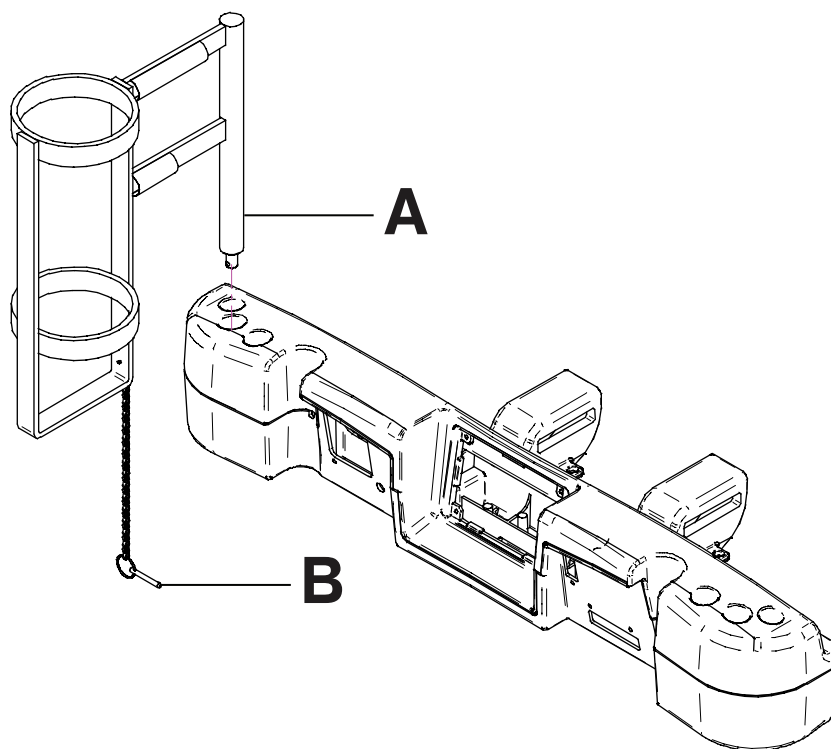

Figure 1-132: Upright oxygen bottle holder
1. Insert the support bar into the socket at the head end or foot end of the product on either side (A) (Figure 1-132 on page 1-111).
2. Insert the security chain pin (B) through the support bar hole (Figure 1-132 on page 1-111) to secure the bottle holder to the product.